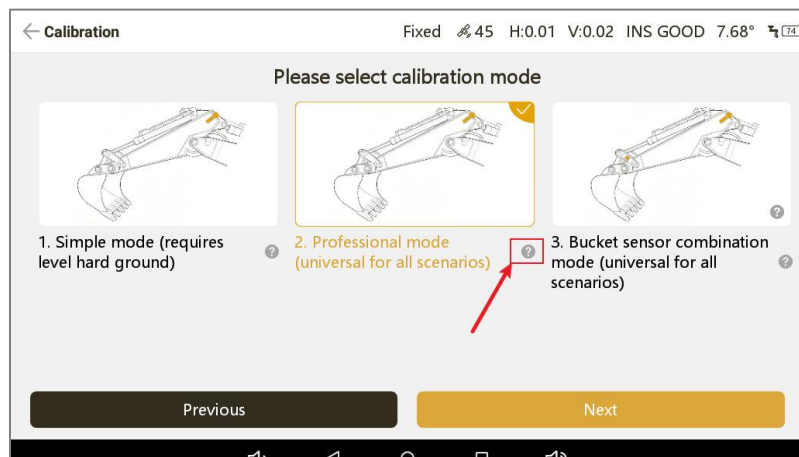
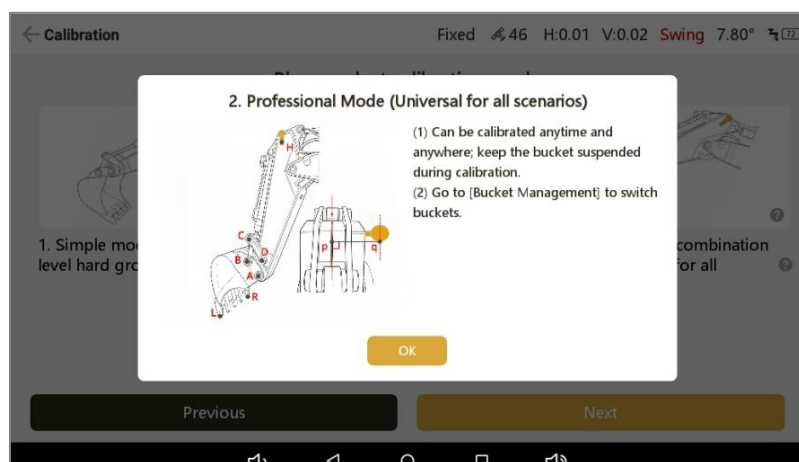

Figure 3-37
Figure 3-38
- ⑤ Enter the excavator name, then tap 'Next' at the bottom to proceed to the calibration mode selection screen, as shown in Figure 3-37. Select the third option '2. Professional mode (universal for all scenarios)'. The question mark icon on the right can be tapped to view detailed instructions for this mode, as shown in Figure 3-37 and Figure 3-38. This calibration mode has no site restrictions and can be used in all scenarios.